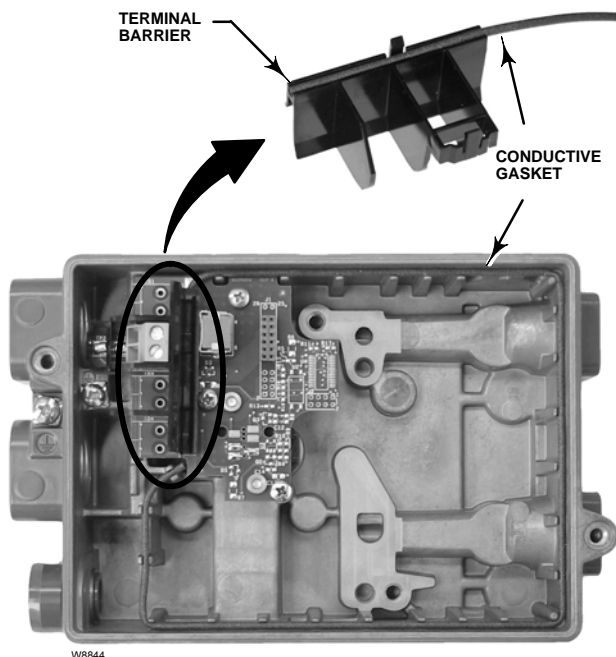

Figure 6-3. Installation of Conductive Gasket
5. Place the long conductive gasket (key 29) in the terminal barrier (key 36) as shown in figure 6-3.